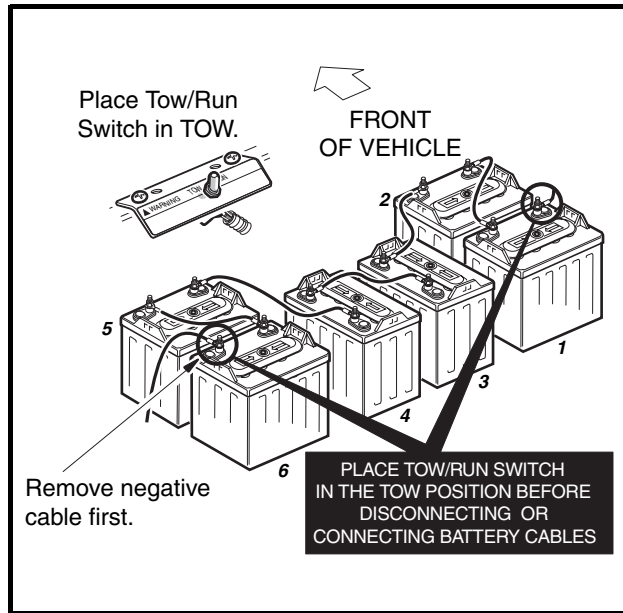

Figure 14-1 IQ System Battery Configuration
5. Install batteries in the proper orientation (**Figure 14-1, Page 14-2**). Install battery hold-downs. The hold-downs should be tight enough so batteries do not move while vehicle is in motion, but not so tight as to crack or buckle battery case. Tighten to 40 in-lb (4.5 N·m), alternating between hold-down bolts.
6. Install wires in proper sequence (**Figure 14-1, Page 14-2**). Install black wire to negative post of battery no. 6 last. Make sure all connections are tight. Tighten to 110 in-lb (12.4 N·m). Coat all terminals with Battery Terminal Protector Spray (CCI P/N 1014305) to minimize future corrosion.
When the batteries are fully charged, disconnect the charger DC plug. Wait 20 to 30 seconds and reconnect the DC plug to restart the charger. After 5 minutes, use a multimeter to check and record the voltage of the battery set as well as the individual batteries. Set the multimeter to 200 volts DC. Place the red (+) probe on the positive (+) post of battery no. 1 and the black (-) probe on the negative (-) post of battery no. 6 (**Figure 14-1, Page 14-2**). Record reading. Then set multimeter to 20 volts DC and place the red (+) probe on the positive (+) post and the black (-) probe at the negative (-) post of each battery. Record the readings.